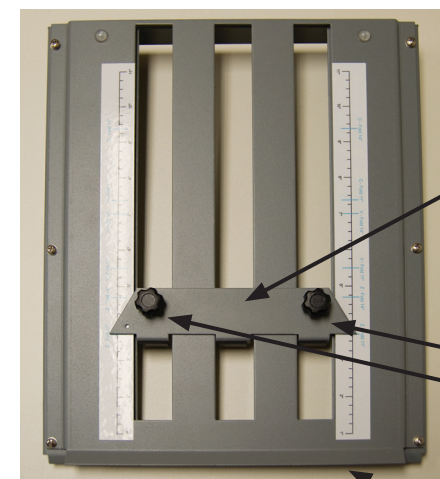

Figure 3a
1. Adjust fold plates to desired fold for length of paper (see fold plate adjustment on page 3). To do this, loosen the two thumbscrews (figure 3a & b) on each fold plate. Align center bar (figure 3a & b) so the marks on each side match up. For "V" folds remove the lower fold plate, turn around 180° and reinstall.